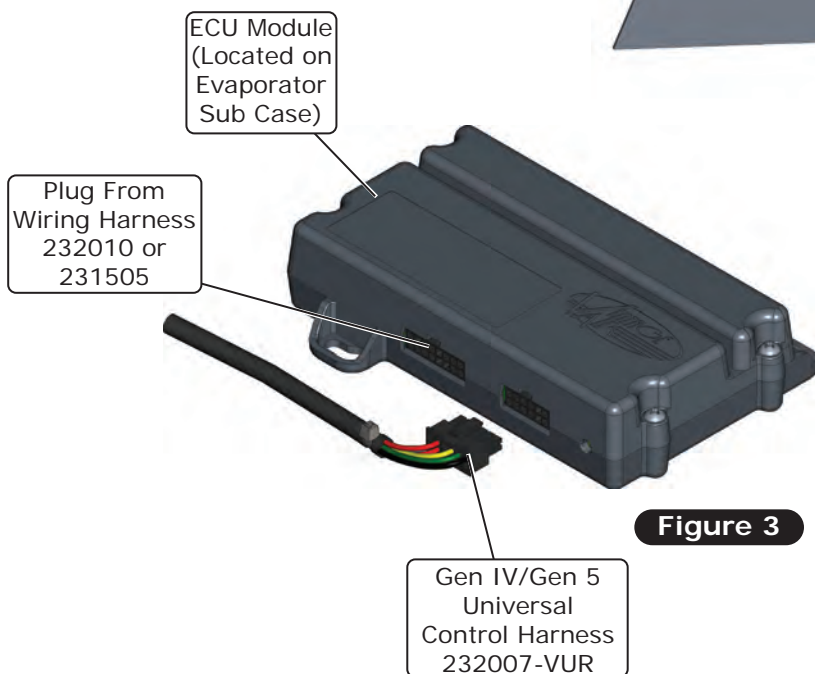

Figure 3
5. Plug the control harness into the ECU module on the sub case (See Figure 3, below).